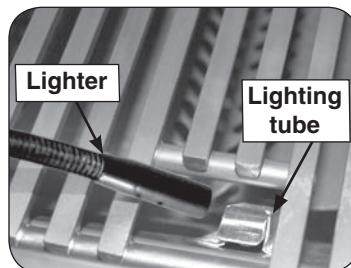
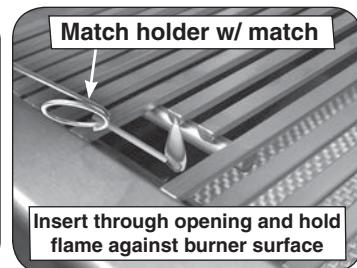

Fig. 27-2 Manual lighting via lighting tube
Fig. 27-3 Manual lighting via match holder
**CAUTION:** Always wait five (5) minutes for gas to clear after any unsuccessful lighting attempt.
2. Insert either a burning long-barrel butane lighter or a burning long-stem match through the cooking grid opening to the top of the lighting tube (Fig. 27-2). For backburners or infrared burners, hold the flame against the surface of the backburner/infrared burner. Grills equipped with an infrared burner include a wire extension match holder (attached to drip tray) to assist with manual lighting (Fig. 27-3).
4. If the burner does not light within five (5) seconds of turning the control knob, **immediately depress the knob and turn the valve to OFF**. WAIT FIVE (5) MINUTES before repeating steps 2 through 4 of the MANUAL LIGHTING instructions.